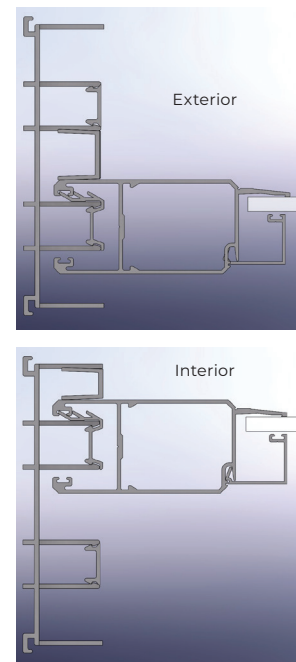

Figure 38
- **Note:** Be sure the "Fins" on the clip are facing the interior of the house. (See Figure 38)